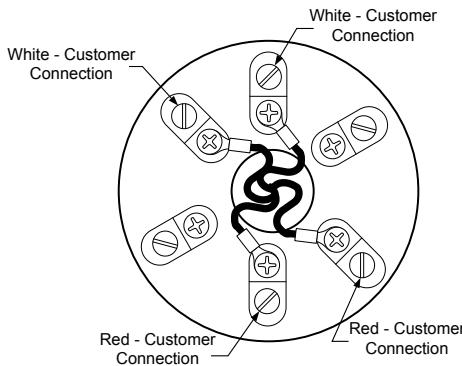

Fig. 7: RTD terminal block
5. Wire the RTD probe at the terminal block (Fig. 7). Install the probe wire spade lugs under the small screw heads. One color (typically white) is one side of the RTD and will go to the RTD Out & + connections on the G4 EX J8 connector. The other color (typically red) is the other side of the RTD and will go to In & - connections on J8.